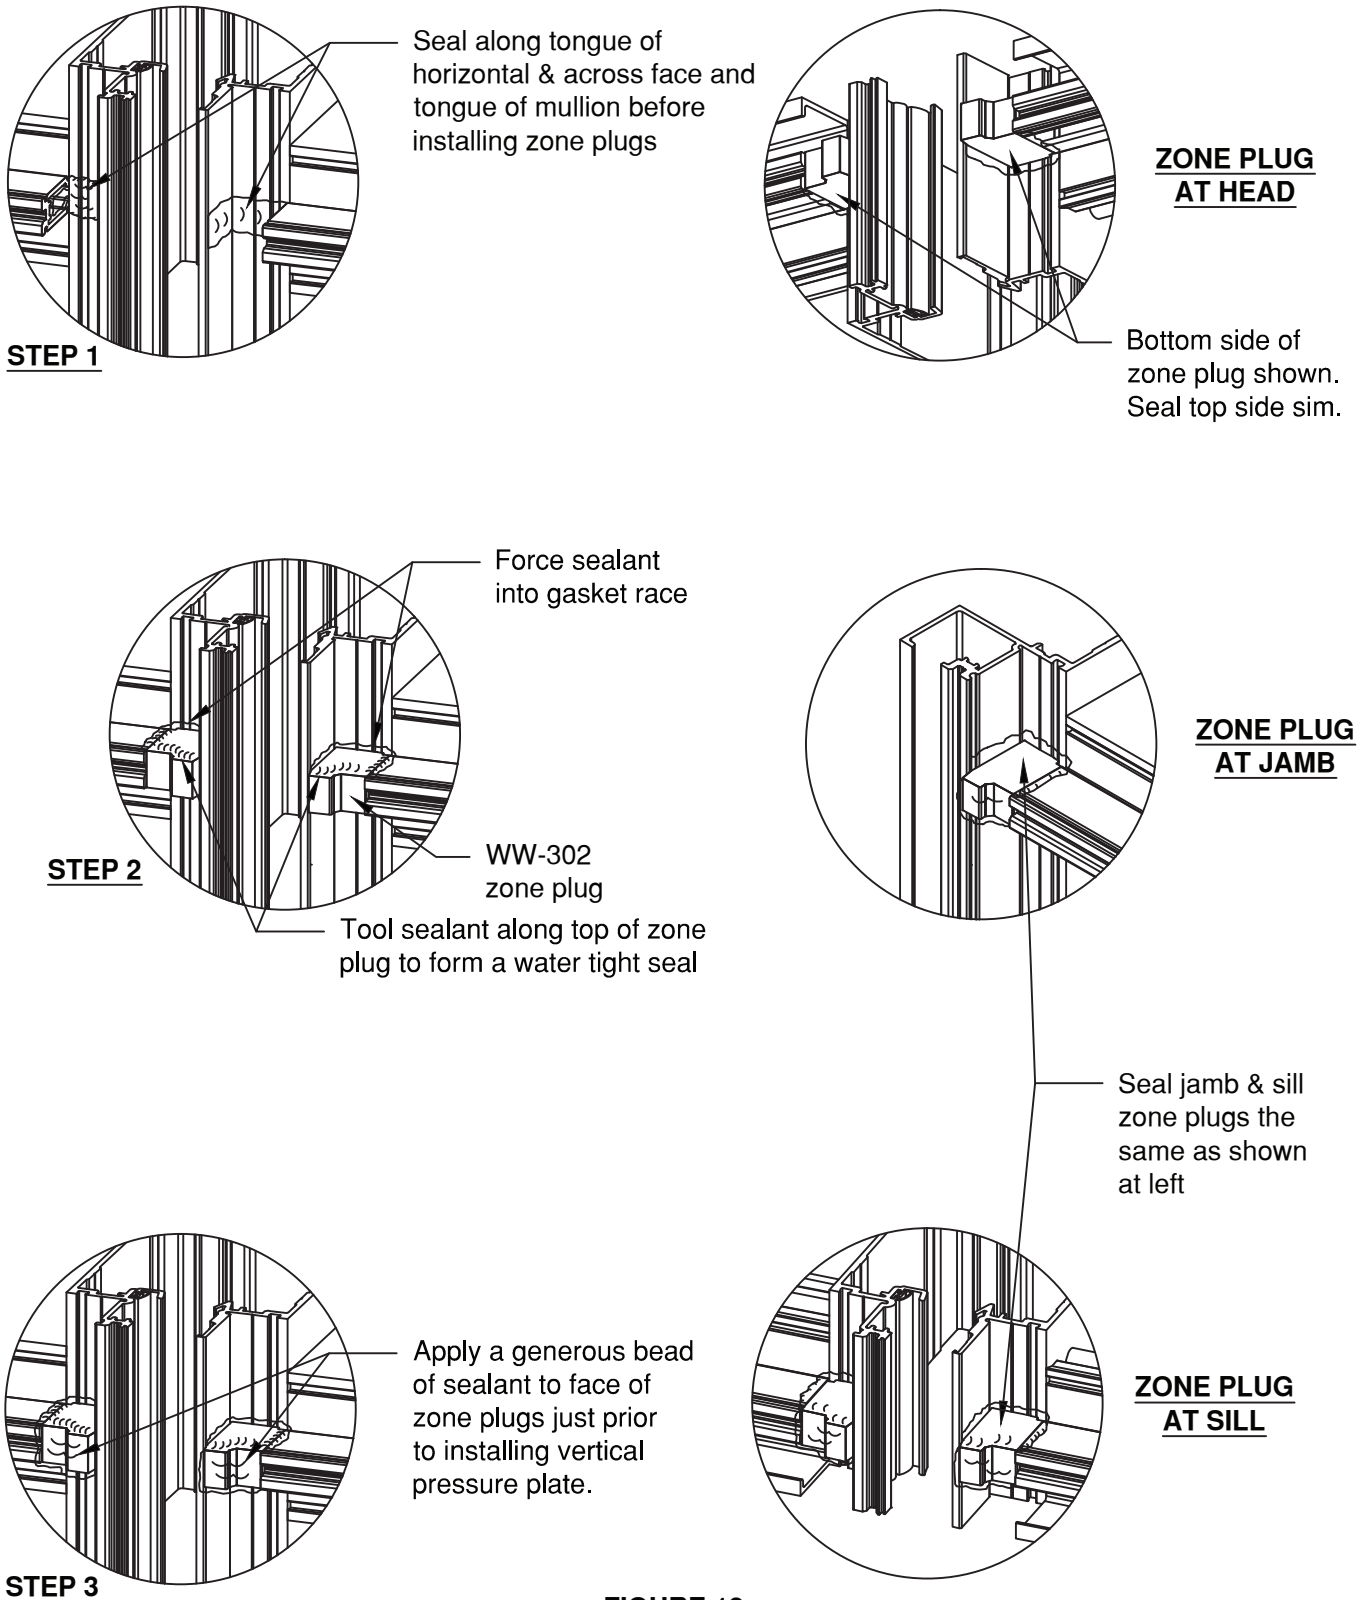

FIGURE 12
- 2.5 After bay is assembled, apply sealant to all contact surfaces on vertical and horizontal mullions where the zone plugs will be installed (captured mullions only). Apply sealant to horizontal tongue receptor on zone plug and install at the end of each horizontal, head and sill. Tool any excess sealant around front end of zone plug where thermal isolator abuts the zone plug. Tool sealant in the glazing pockets to ensure a watertight fit. **SEE FIGURE 12, page 12**